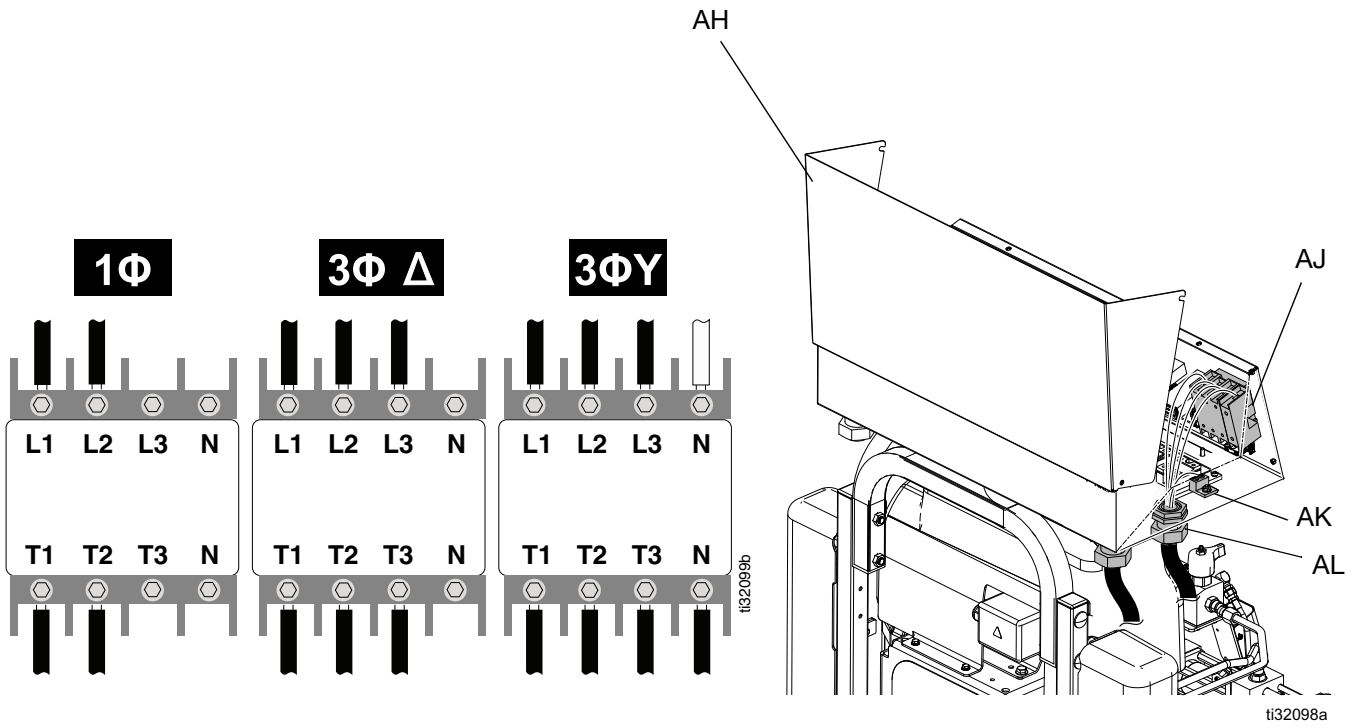

FIG. 8: Connect Incoming Power Wires
2. Turn main power disconnect (CE) to OFF.
3. Open the electrical enclosure door (AH) by loosening the bolts (BH) and lifting the door upwards. See FIG. 8.
4. Route power cable through power inlet cord grip (AL) in electrical enclosure (C). Tighten cord grip (AL). See FIG. 8.
5. Connect incoming power wires to main disconnect terminals (AJ) and main ground lug (AK) as shown in FIG. 8. Torque to 55 in-lbs (6.2 N•m). Gently pull on all connections to verify they are properly secured.
- a. **230 V, 1 phase:** Using 5/32 or 4 mm hex allen wrench, connect two power leads to L1 and L2. Connect green to ground lug (AK).
- b. **230 V, 3 phase:** Using 5/32 or 4 mm hex allen wrench, connect three power leads to L1, L2, and L3. Connect green to ground lug (AK).
6. Verify all items are connected properly as shown in FIG. 8. Close the electrical enclosure door (AH) and tighten the bolts (BH).